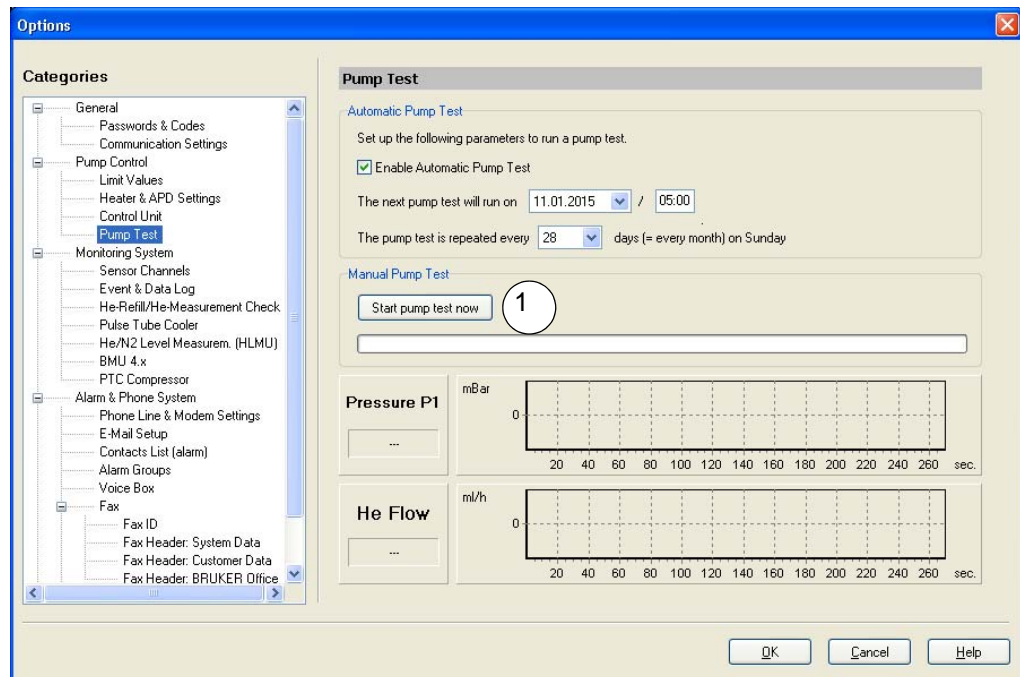

Figure 8.21: Tools - Options - Control Unit - Pump Test
4. Press the „Start pump test now“ button (Figure 8.21: 1).